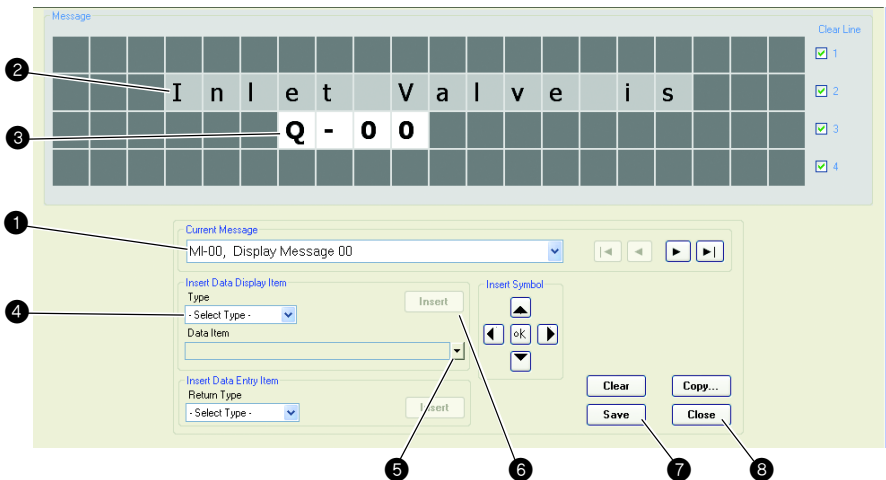

Figure 1-9 Message Editor
2. Select the "MI-00, Display Message 00" from the "Current Message" drop-down menu (see Figure 1-9). This is the message title ①.
3. Click on the desired character block (line 2, block 4), and type the text "Inlet Valve is" to enter the message content ②.
- a) Click on the desired character block (line 3, block 7) at the desired location, the start of "Q-00" ③.
- b) From the "Type" drop-down menu, click the "Outputs" option ④.
- c) From the "Data Item" drop-down menu, click the "Q-00 Output 00" option ⑤.
- d) Select the "Insert" button ⑥.
5. When finished click the "Save" button ⑦, and then click the "Close" button ⑧.